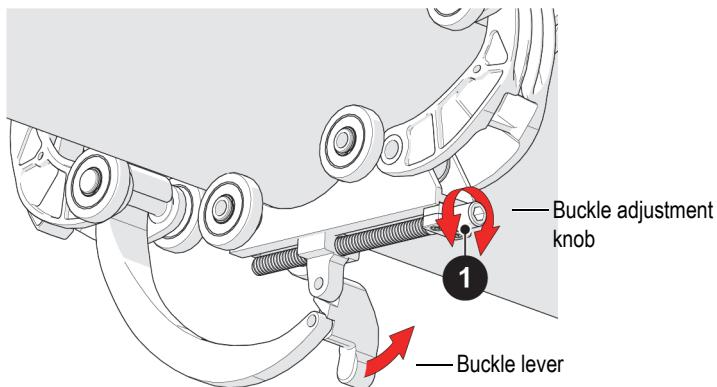

Figure 2-4 Buckle pressure adjustment
12. If required, loosen the buckle adjustment knob and the buckle lever to allow the arm to reach the catch link (see Figure 2-4 on page 34).
13. Rotate the buckle adjustment knob until you can push the buckle lever down, and lock the buckle in place (see Figure 2-4 on page 34).